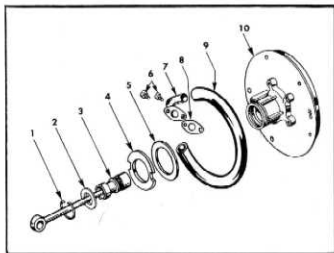

Fig. 8
7. Remove the snap ring (1) retaining the valve in the valve sleeve with needle nose pliers or a screwdriver (fig. 8). Remove stop washer (2) and push rod sliding valve assembly (3) from piston assembly (10).
22. Clean surface of steel back-up washer (5) and place washer over hub end against shoulder of piston assembly (10) (fig. 8). Soften the coated side of new piston stop washer (4) with a few drops of gasoline and assemble washer, with inside diameter in groove of piston assembly hub and with coated side down against steel washer (5).
23. Make certain slide valve and screen (3) are clean and dry. Insert slide valve and push rod into valve sleeve in piston assembly. Install stop washer (2) and snap ring (1) into valve sleeve outer end, make certain snap ring is seated in ring groove.
24. Attach vacuum fitting (7) and gasket (8) with screws (6) to piston assembly, then assem-